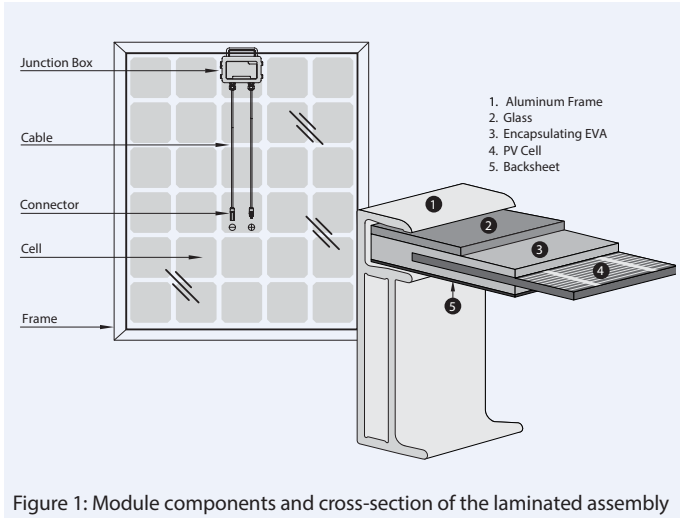

Figure 1: Module components and cross-section of the laminated assembly
- The flat-plate PV module construction consists of a laminated assembly of solar cells encapsulated within an insulating material with a rigid glass surface and an insulated substrate. The laminated assembly is supported by an aluminum frame that is also used for mounting the module. See Fig. 1 for an illustration of the PV module components.